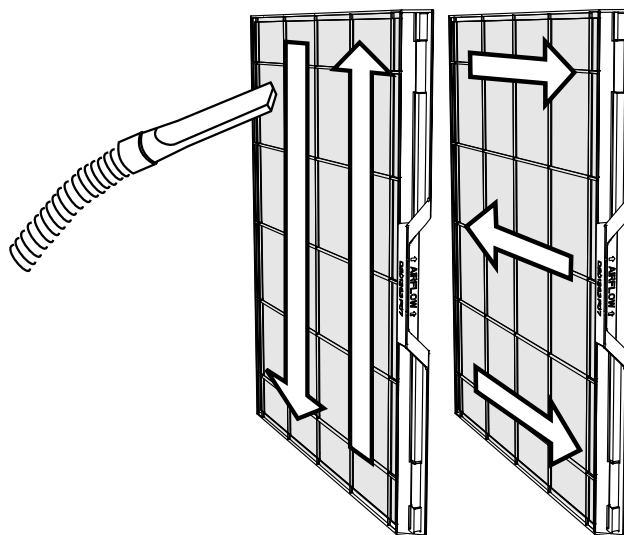

Fig. 7
- Using a vacuum hose, vacuum in even strokes across the length of the PRE-FILTER. After vacuuming the entire PRE-FILTER using even strokes going in one direction, repeat the process using even strokes going in the opposite direction as shown in Figure 7.